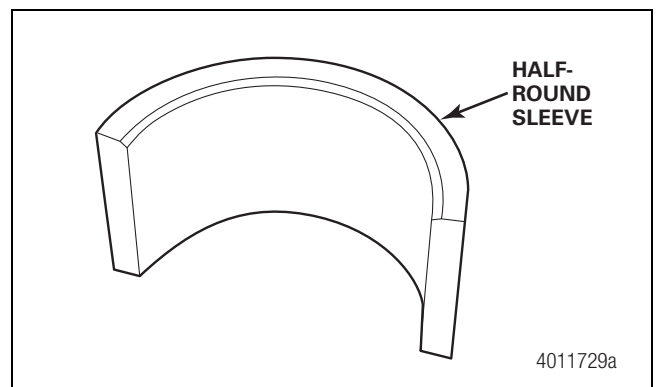
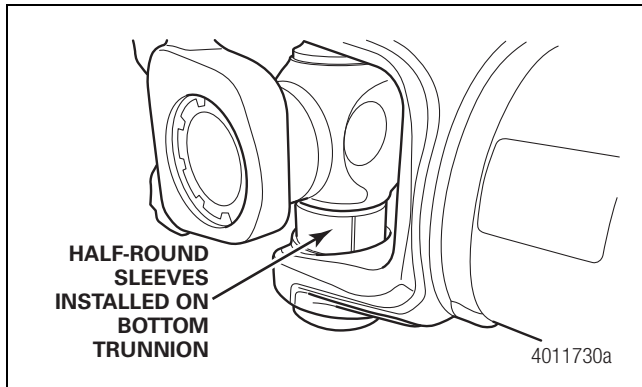

Figure 4.49
Figure 4.50
7. Lift up the cross and install the half-round sleeves on the radius of the bottom trunnion as shown. Refer to Section 14 for a tool drawing. Figure 4.49 and Figure 4.50.